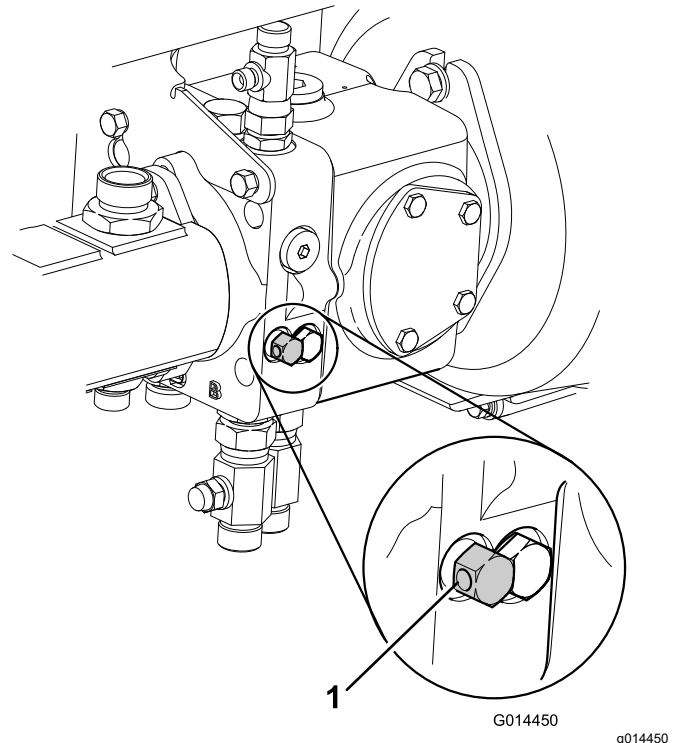

Figure 47
3. Close the bypass valve on the transmission pump (Figure 47) by turning it clockwise.